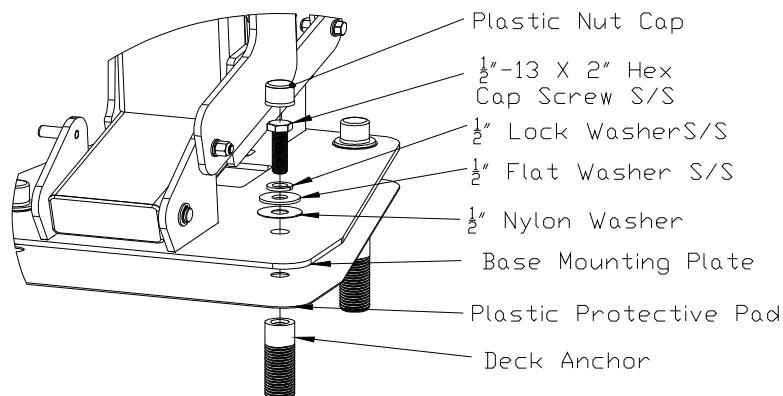

Figure 3. Mounting Hardware
6. Locate the deck mounting hardware in the accessory carton and use the hardware to fasten the ML300 to the anchors as shown in Figure 3. Tighten the bolts down until the lock washers are fully compressed. **Note: Anti-seize compound must be used on the stainless steel mounting bolts to prevent seizing in the deck anchors.**